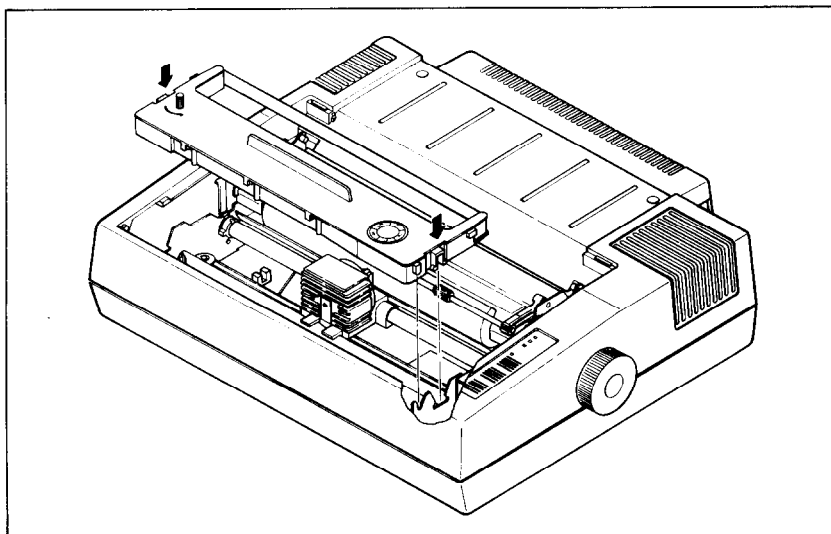

Figure 1-7. Lightly press the cartridge down until the holder springs hold it in place.
3. Using the guide holders as a fulcrum with the ribbon facing away from you, as shown in Figure 1-7, lightly press the cartridge down until the two holder springs snap shut to hold the cartridge firmly in place.